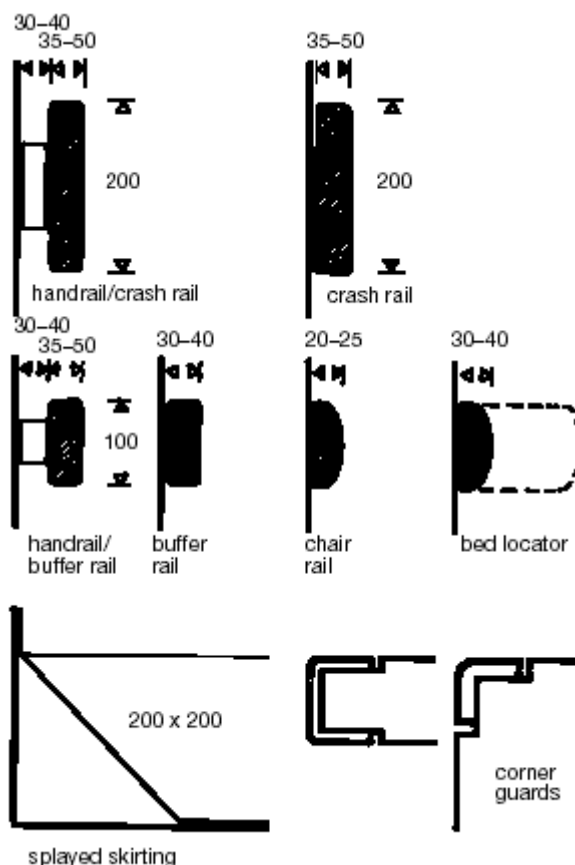

Figure 8: Types of protective device
- 6.2 The descriptions shown in Figure 8 are in general use and are given in an attempt to encourage the use of some common terms for the subject.